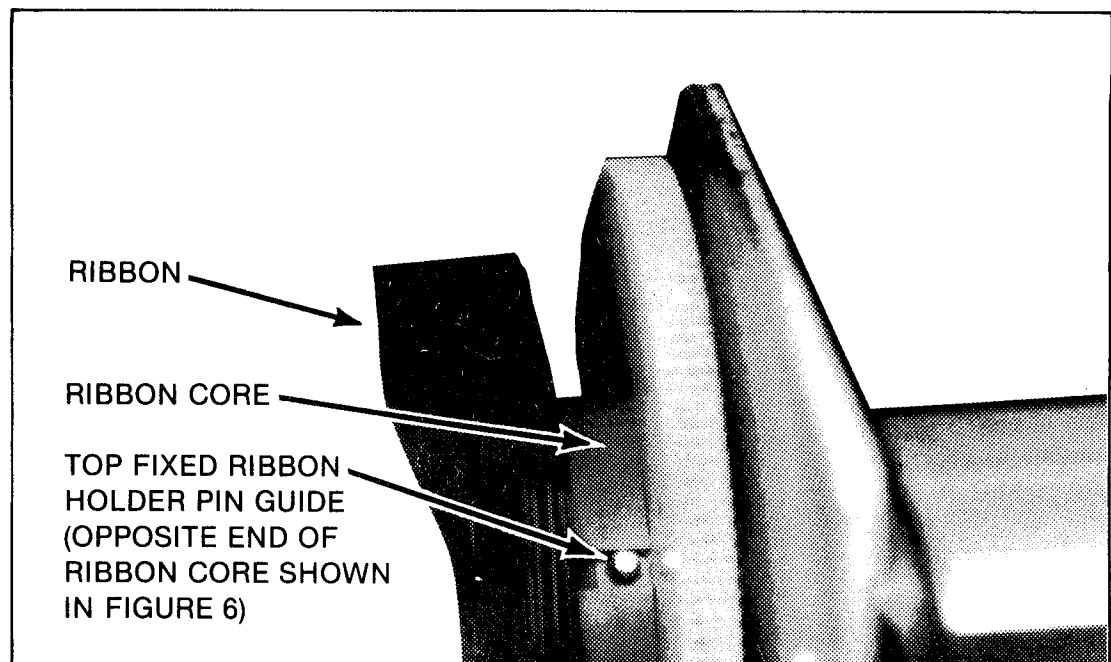

Figure 7. Guide Pin Location
- Push ribbon core against floating ribbon holder spring and place opposite ribbon holder. Ensure that holder guide pin slips into slot on core end. (Figure 7.)